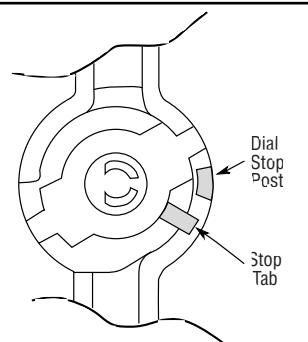

Figure 12
A. Be sure that thermostat shaft is fully counter-clockwise (see Figure 12). With thermostat knob held in the indicated OFF position, carefully replace enclosure cover while feeling for proper engagement of shaft coupling.